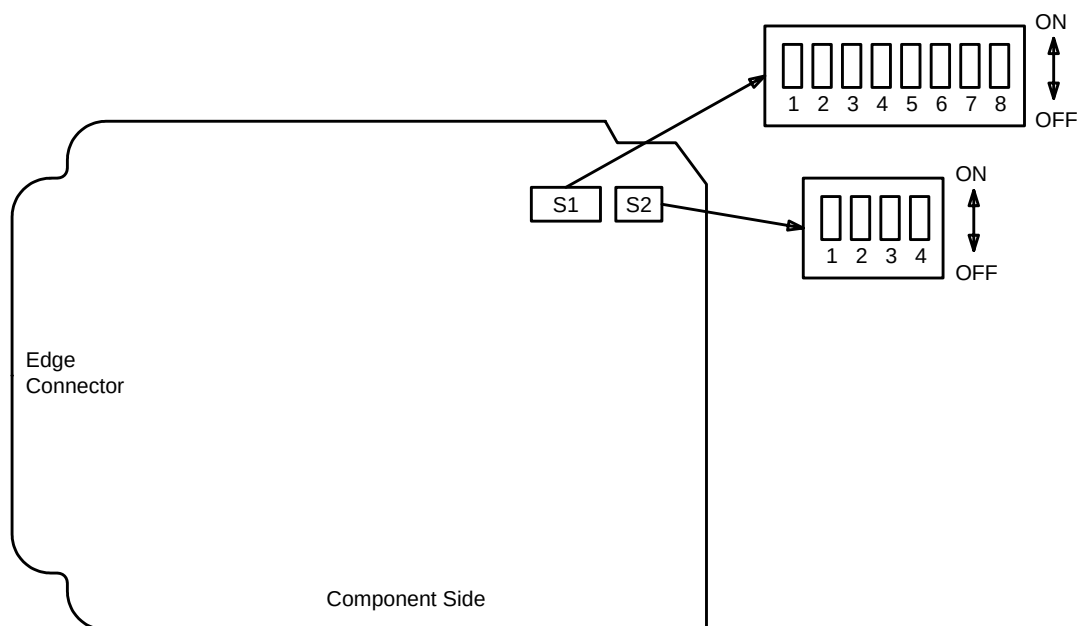

Figure 1 – OHCTL Option Switch
4. On the **OHCTL**, set **S1** switches to the correct positions for the network element number of your system. Refer to Table A and Figure 1.
- **All other switches on S1, S2, S3, and S4**: As shown in Figure 1.
For *SLC*[®]-2000 system applications, the **S1-4** through **S1-8** TBOS options must be set as shown in Figure 1. The TBOS display number must be unique for each piece of equipment in a SONET network. The craft interface terminal (CIT) baud rate interface to the user interface panel (UIP) is set for 9,600 but can be changed with the UIP display **SET-BAUD** command. Tables A, B, C, and D provide a summary of **SYSCTL** option switch settings.